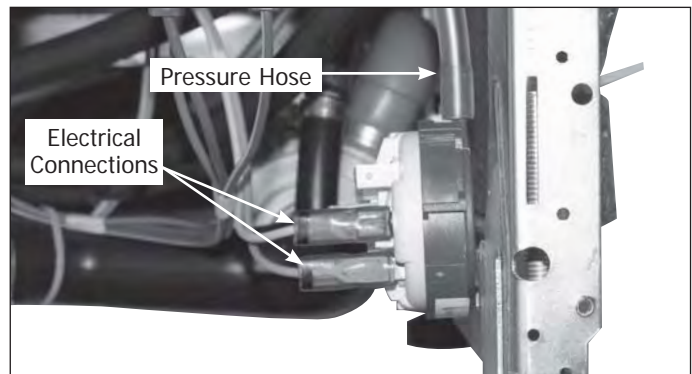

Figure 4-22.
7. Disconnect the wire leads from pressure switch terminals. Terminals have locks, press down on lock to remove terminal. (See Figure 4-22)